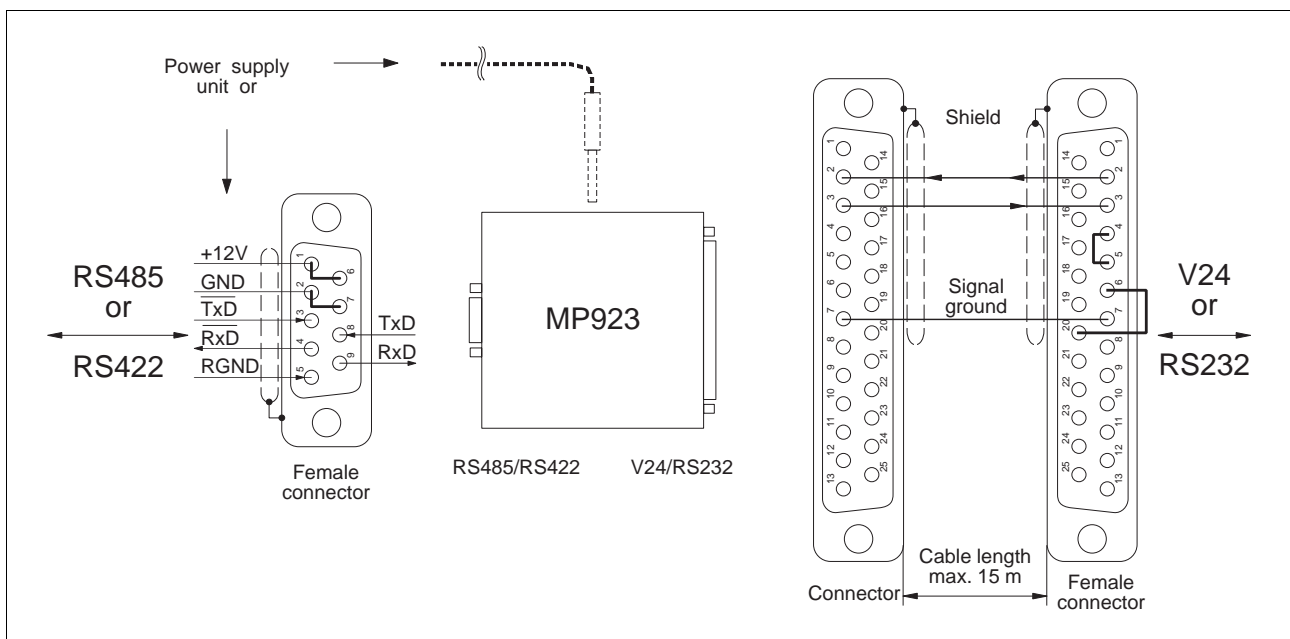

Fig. 6-21 Starting the MP 923 interface converter
1. Connect MP 923 interface converter as shown in fig. 6-21.